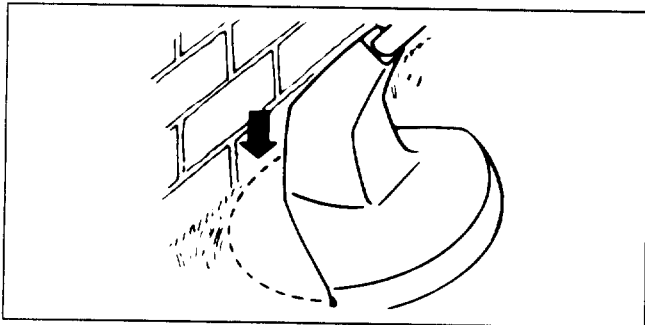

Figure 6
2. **DO NOT FORCE THE UNIT.** Allow the very tip of the nylon line to do the cutting (especially along walls) (Fig. 6). Cutting with more than the tip will reduce cutting efficiency and overload the motor.